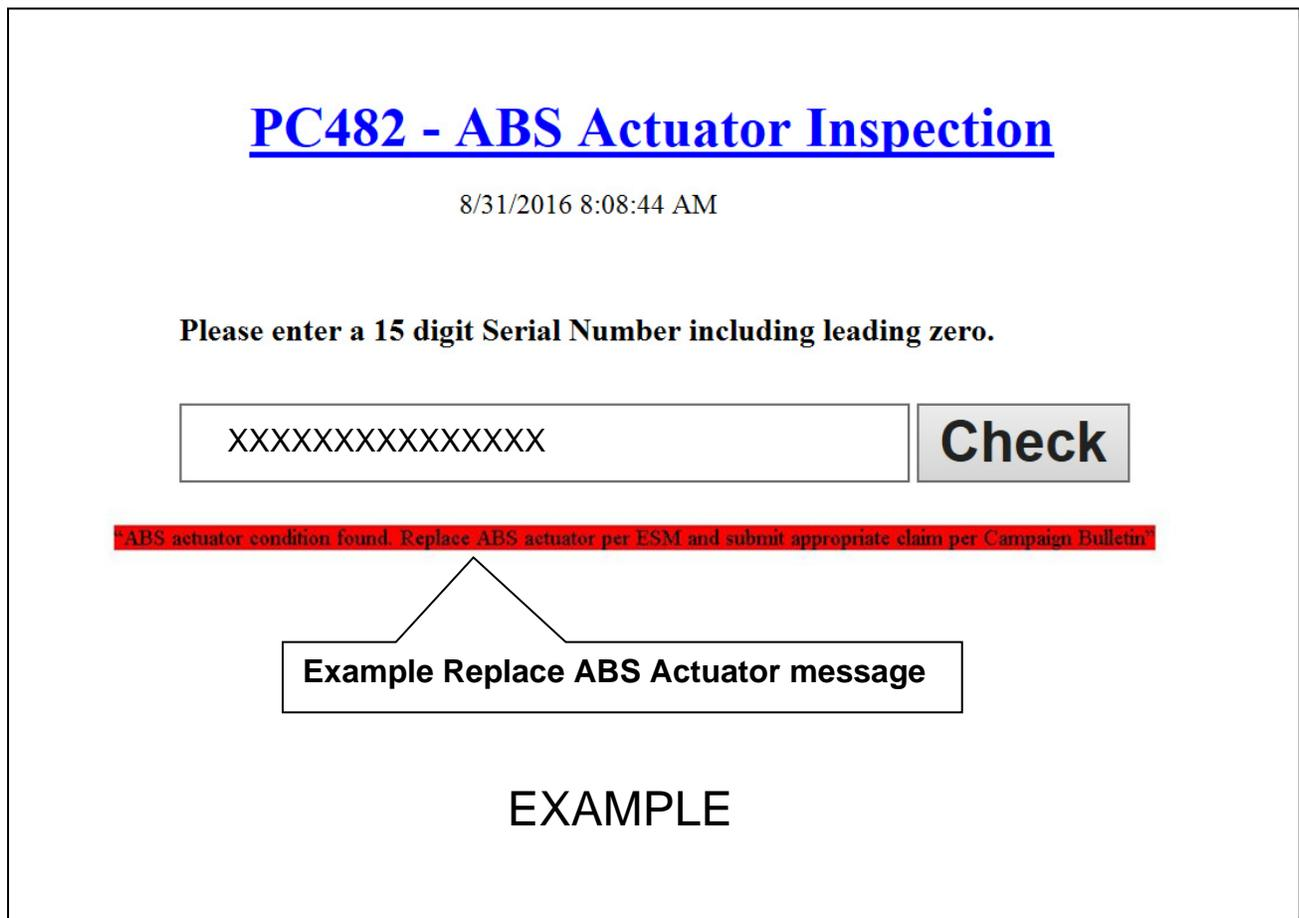

Figure 6A
- If your ABS control unit (ABS Actuator) is NG, the **Replace ABS Actuator** message shown in Figure 6A will display.
- The screen in Figure 6A showing the 15 digit serial number and the **Replace ABS Actuator** message, **MUST** be printed and attached to the repair order for warranty documentation.